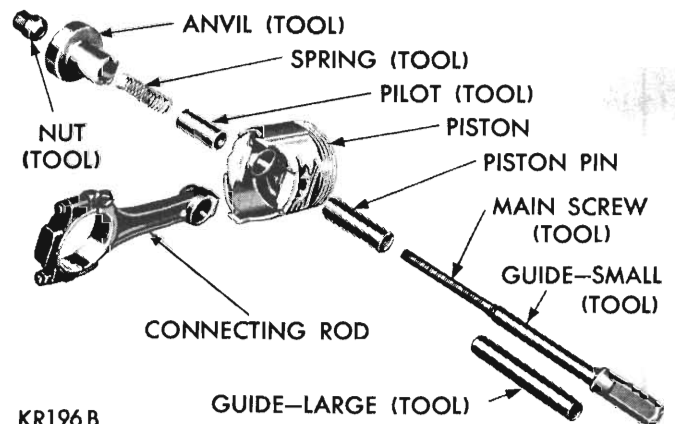

Fig. 39 - Tool arrangement for installing piston pin (Tool E9C50B)
(2) Lubricate the piston pin holes in the piston and connecting rod.
(3) Arrange the tool parts for the installation of piston pin (Fig. 39).
(4) Install the spring inside the pilot and install the spring and pilot in the anvil. (Use pilot No. E9C50H on 265 engine.)
(5) Install the piston pin over main screw.
(6) Place piston with 'Notch Front' up over pilot so that the pilot extends through the piston pin holes.
(7) Position connecting rod over the pilot which extends through the piston hole.
(8) Install the main screw and piston pin in the piston (Fig. 39).